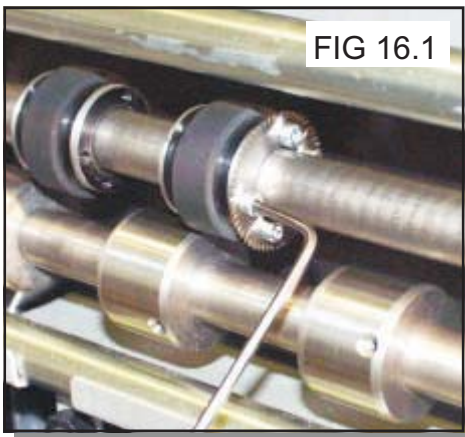

FIG 16.1
7. Mount the other matching pair to the drive wheel as shown (fig 16.1). Secure the blades to the wheel ensuring not to over tighten grub screw.